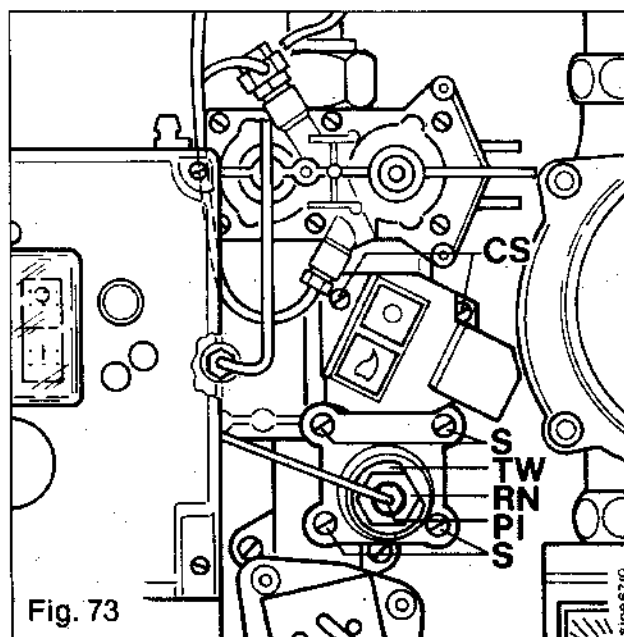

Fig. 73
14.22 Change of thermomagnet unit (Fig. 73)
Disconnect the thermocouple cable from the gas section (PI, Fig. 73).
Remove cover surrounding the push buttons on the gas section (2 screws, CS, Fig. 73).